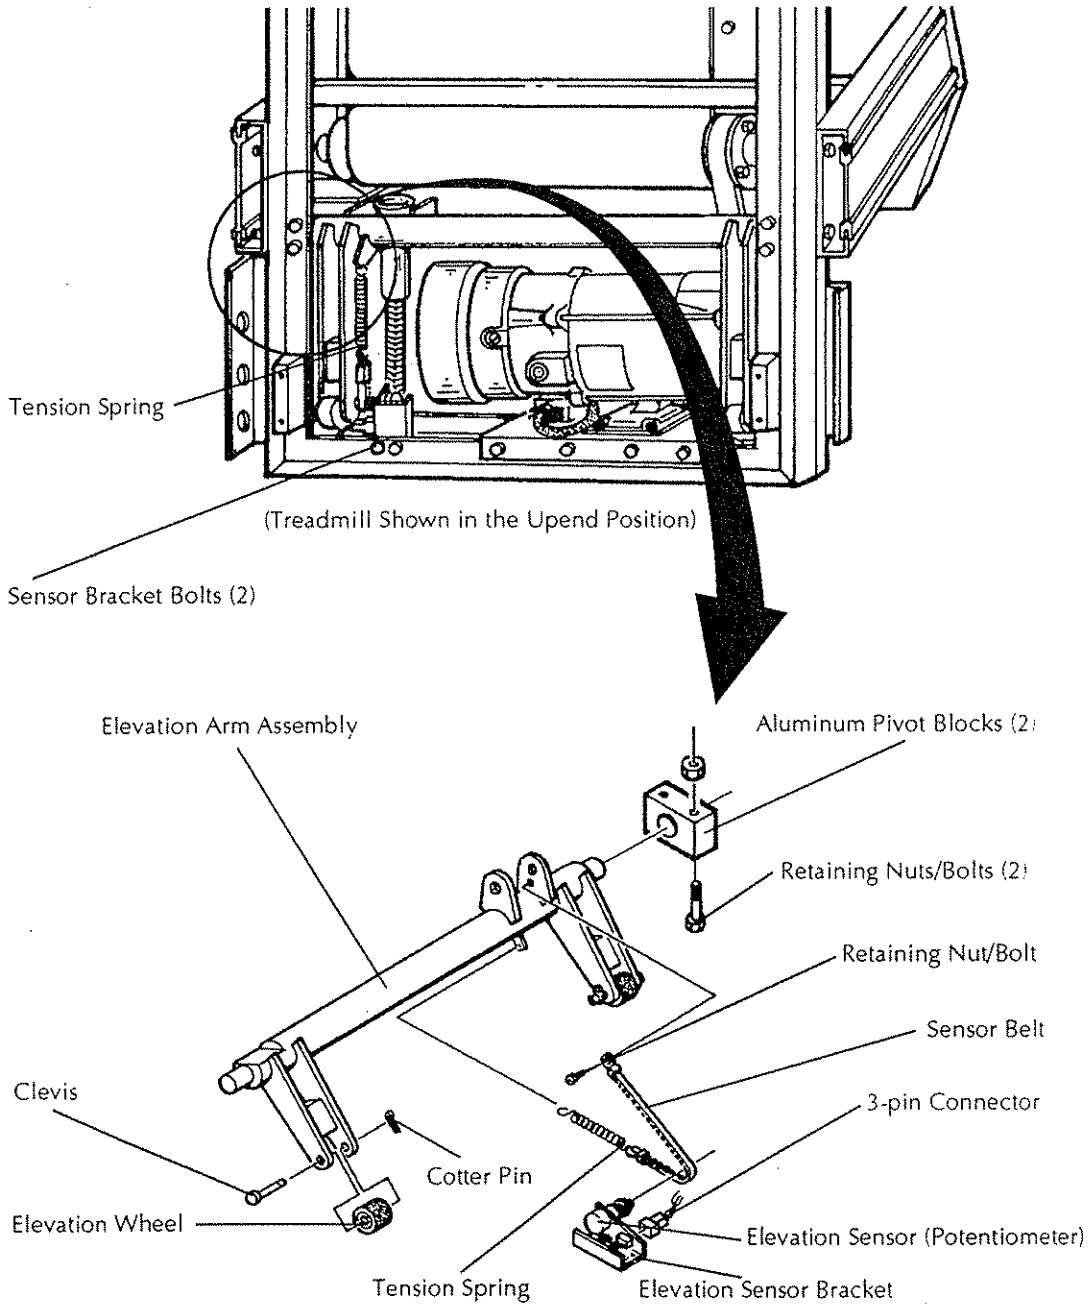

Figure 5-20: Replacing Elevation Assembly Components
4. Disconnect the sensor belt's tension spring from the elevation arm assembly. See Figure 5-20.
5. Remove the retaining nut and bolt securing the sensor belt to the elevation arm assembly. See Figure 5-20.
6. Remove the four nuts and bolts that secure the two aluminum pivot blocks to the treadmill frame at each end of the elevation arm assembly. See Figure 5-20.
7. Slide the two aluminum blocks off the arm assembly. See Figure 5-20. Set these two blocks aside.
3. Remove the cotter pin and clevis securing the wheel to its elevation arm. See Figure 5-20.
3. Remove the nut and bolt securing the sensor belt to the elevation arm assembly. See Figure 5-20.
4. Separate the sensor belt from its tension spring. See Figure 5-20.
3. Disconnect the sensor belt's tension spring from the elevation arm assembly. See Figure 5-20.
Slip the belt off the sensor potentiometer. See Figure 5-20.
4. Disconnect the elevation sensor's 3-pin connector. See Figure 5-20.
5. Remove the two bolts securing the elevation sensor bracket to the treadmill frame. See Figure 5-20.